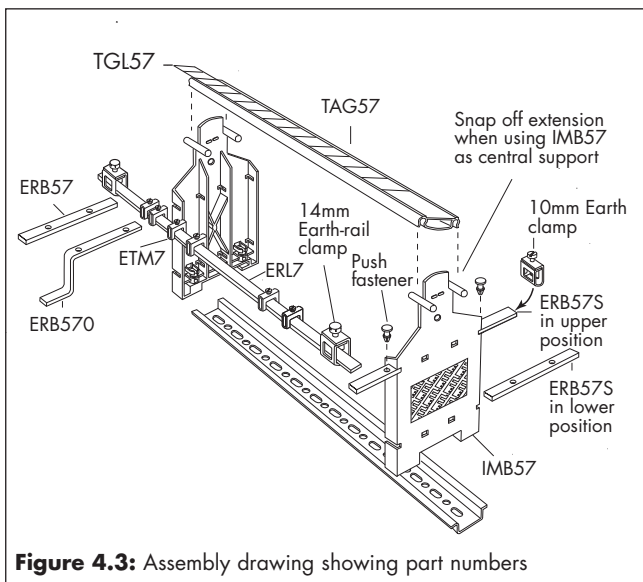

Figure 4.3: Assembly drawing showing part numbers
**Note:** For lengths of earth-rail greater than 500mm, provide additional support by installing a third IMB57 mounting block and earth-rail bracket, mid-way between the end mounting blocks. Snap out the perforated extension between the lugs on this mounting block if a continuous tagging strip is to be fitted (see figure 4.3).